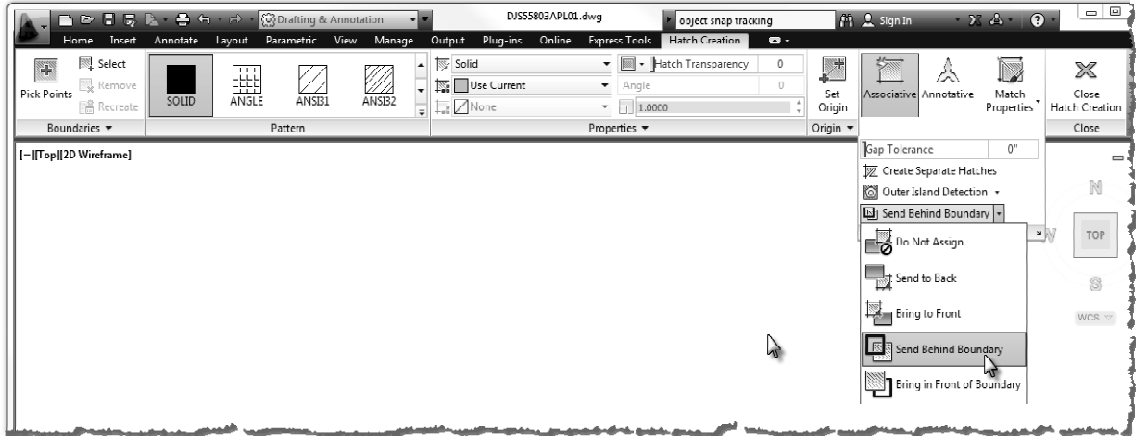

FIGURE 4-5.3 Hatch tab on the Ribbon (Options panel shown expanded)
4. Set the hatch *Pattern* to **Solid** (Figure 4-5.3).
5. In the *Options* panel (Figure 4-5.3):